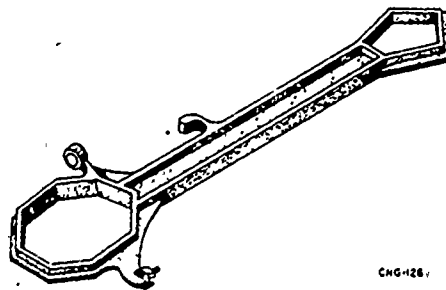

Figure 44. Operating Wrench.
**INSPECT OPERATING NUT.** Replace it if it has rounded corners. Rounded corners are usually caused by the use of an improper wrench. Figure 44 illustrates the type of wrench that should be used when opening and closing fire hydrants.
The operating wrench, shown in figure 44, fits the operating nut, holddown nut, hose nozzle-caps, pin type and lug type hose coupling.